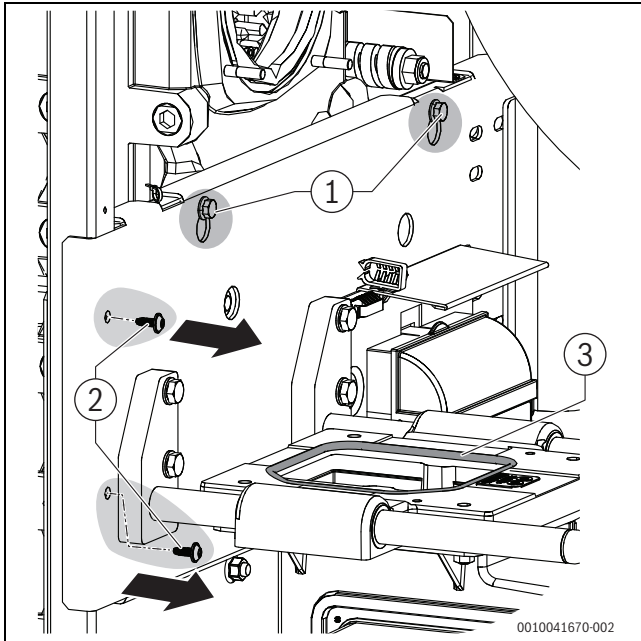

Fig. 10 Screws on the burner base
- Remove the 4 screws on the holding plate of the burner base (→Fig. 10, [2]).
- ▶ Loosen the 2 securing screws on the holding plate of the burner base, do not remove them (→Fig. 10, [1]).
- ▶ Take care that the gaskets are mounted correctly (→Fig. 10 and 10).